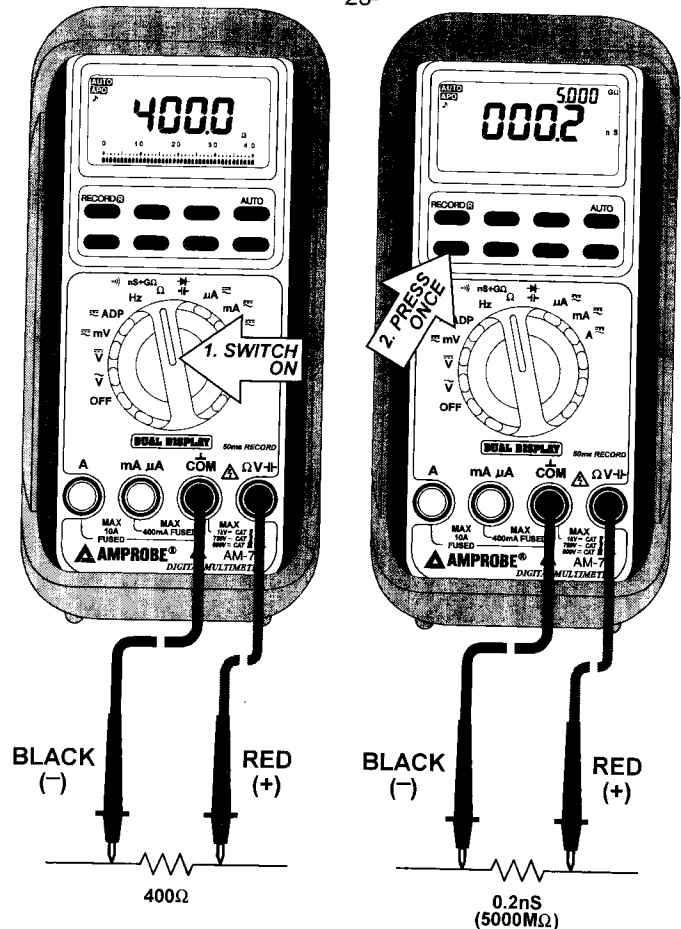

FIG 8. Ω , nS+G Ω FUNCTIONS
- 3) Connect the test leads as shown in FIG 8 and observe the digital display